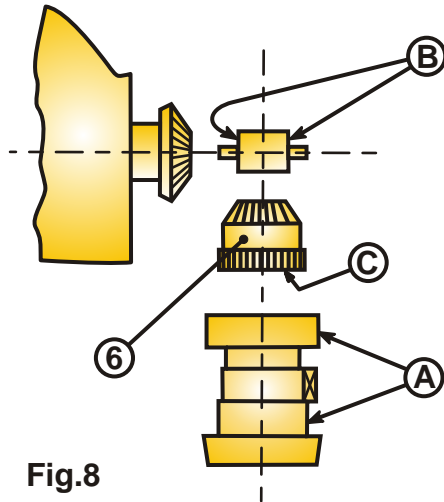

Fig.8
- B) Sometimes it can happen that a small piece of metal or burr enters among the gears, or a piece of the propeller has been dinged; in this case the blade movement can become hard. It is necessary then to do as follows, referring to figure 8.